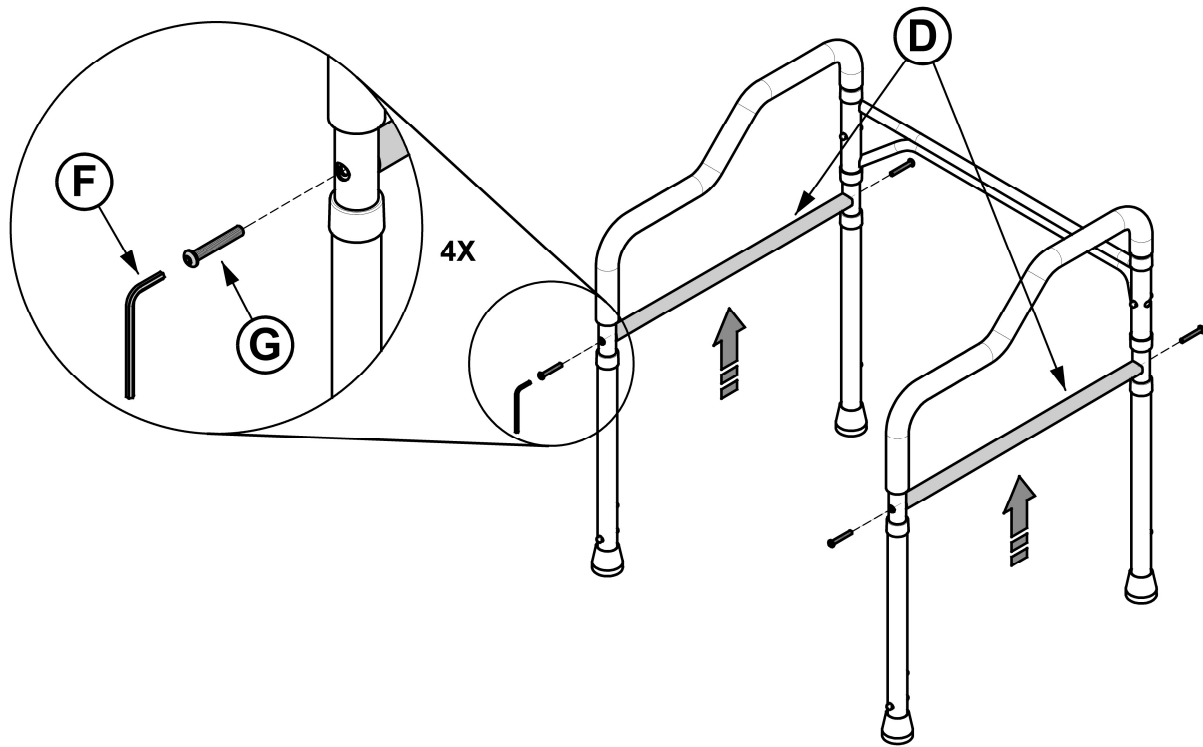

FIGURE 3
3. Align holes with crossbars (D) and install bolt (G) x4 using tool (F) as shown in *FIGURE 3*.